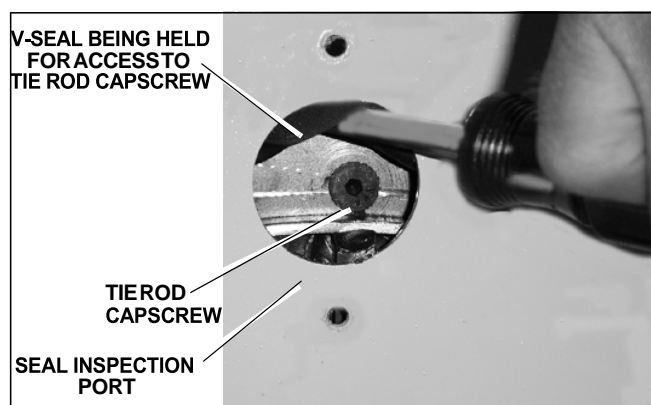

Figure 21. Seal Capscrew Removal
7. After removing the Seal Inspection Covers, manually rotate the drum until one of the Tie Rod cap screws is in-line with the seal inspection opening. Push the seal upwards until the capscrew securing the tie rod is exposed, Figure 21. Remove the capscrew.